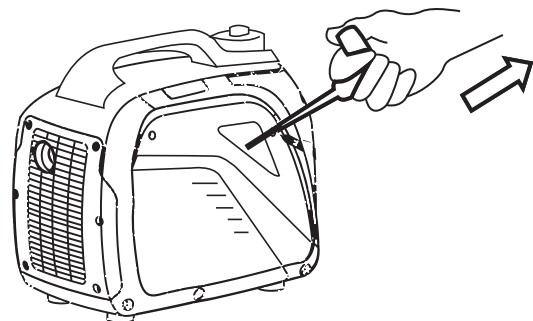

Figure 8: Pull the Recoil Handle out from Inverter
3. Firmly grasp and pull the recoil handle slowly until you feel increased resistance. At this point, apply a rapid pull while pulling out from the inverter (see *Figure 8*).